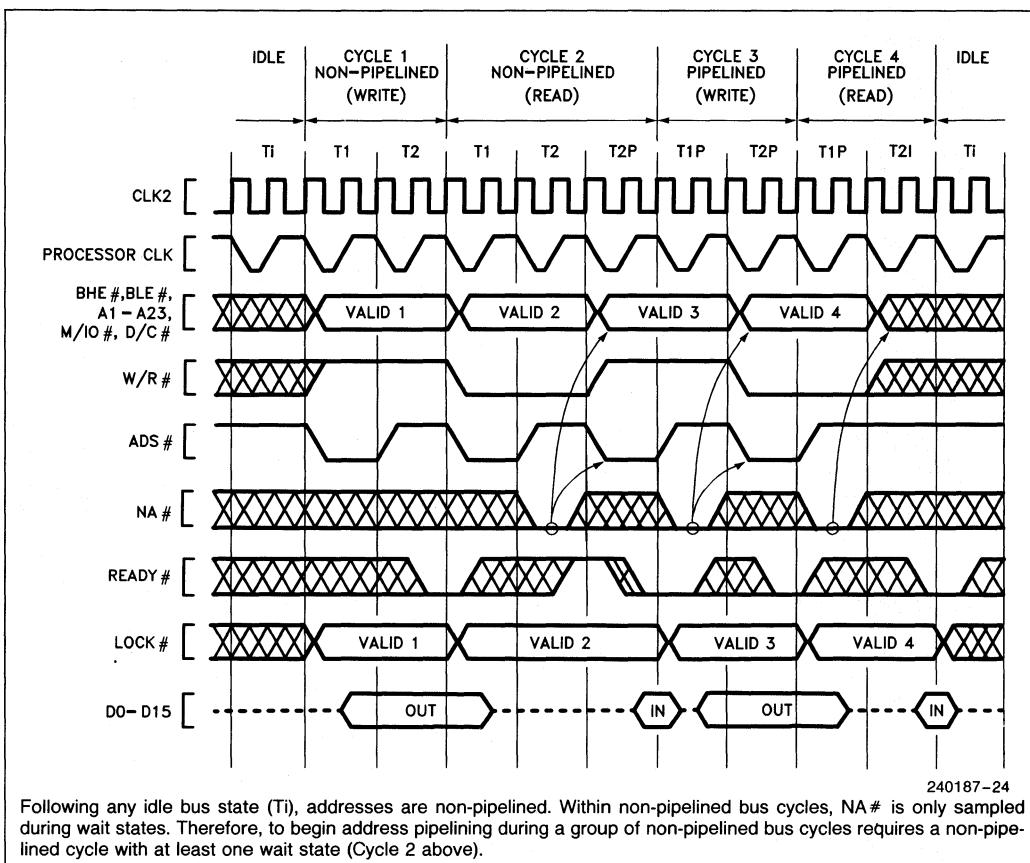
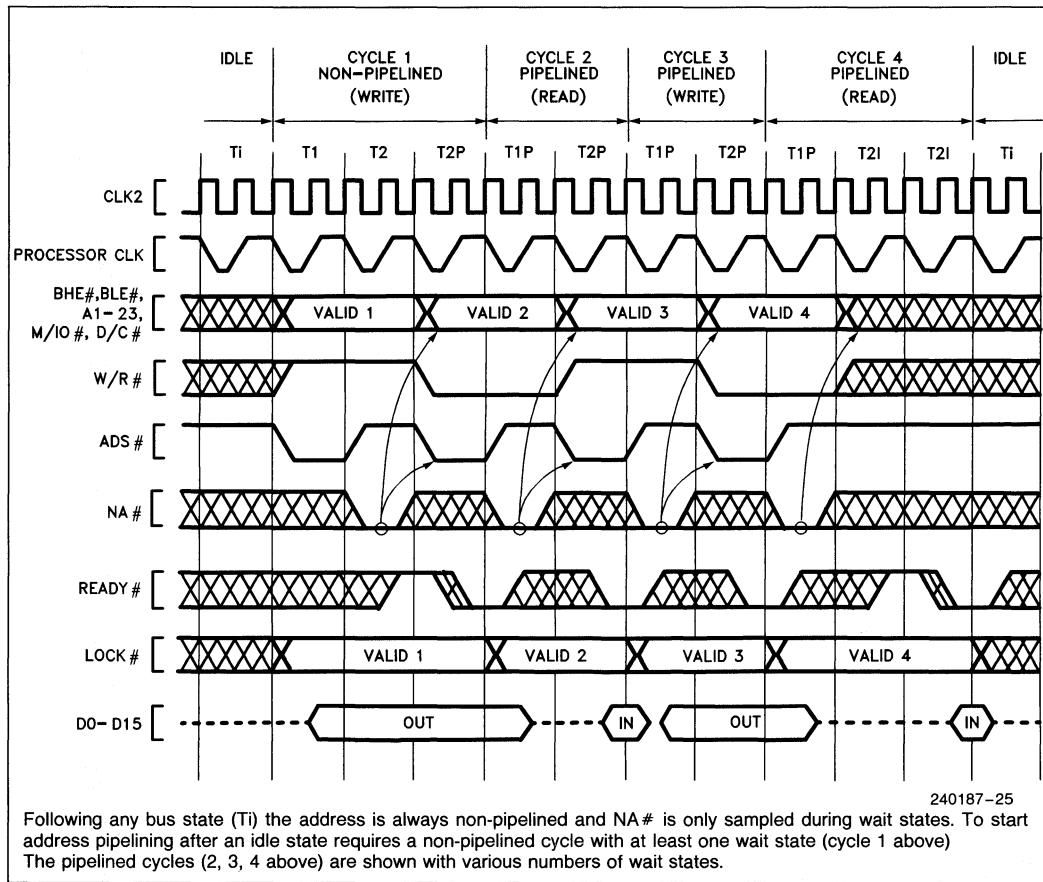

Figure 5.9. Transitioning to Pipelined Address During Burst of Bus Cycles
Figure 5.10. Fastest Transition to Pipelined Address Following Idle Bus State
Once a bus cycle is in progress and the current address has been valid for at least one entire bus state, the NA# input is sampled at the end of every phase one until the bus cycle is acknowledged. During non-pipelined bus cycles NA# is sampled at the end of phase one in every T2. An example is Cycle 2 in Figure 5.9, during which NA# is sampled at the end of phase one of every T2 (it was asserted once during the first T2 and has no further effect during that bus cycle).
1. The next address may appear as early as the bus state after NA# was sampled active (see Figures 5.9 or 5.10). In that case, state T2P is entered immediately. However, when there is not an internal bus request already pending, the next address will not be available immediately after NA# is asserted and T2I is entered instead of T2P (see Figure
2. Any address which is validated by a pulse on the 80386SX ADS# output will remain stable on the address pins for at least two processor clock periods. The 80386SX cannot produce a new address more frequently than every two processor clock periods (see Figures 5.9, 5.10, and 5.11).
The transition to pipelined address is shown functionally by Figure 5.10 Cycle 1. Note that Cycle 1 is used to transition into pipelined address timing for the subsequent Cycles 2, 3 and 4, which are pipelined. The $NA\#$ input is asserted at the appropriate time to select address pipelining for Cycles 2, 3 and 4.
Once a bus cycle is in progress and the current address has been valid for one entire bus state, the $NA\#$ input is sampled at the end of every phase one until the bus cycle is acknowledged. Sampling begins in $T2$ during Cycle 1 in Figure 5.10. Once $NA\#$ is sampled active during the current cycle, the 80386SX is free to drive a new address and bus cycle definition on the bus as early as the next bus state. In Figure 5.10 Cycle 1 for example, the next address is driven during state $T2P$. Thus Cycle 1 makes the transition to pipelined address timing, since it begins with $T1$ but ends with $T2P$. Because the address for Cycle 2 is available before Cycle 2 begins, Cycle 2 is called a pipelined bus cycle, and it
Examples of transition bus cycles are Figure 5.10 Cycle 1 and Figure 5.9 Cycle 2. Figure 5.10 shows transition during the very first cycle after an idle bus state, which is the fastest possible transition into address pipelining. Figure 5.9 Cycle 2 shows a transition cycle occurring during a burst of bus cycles. In any case, a transition cycle is the same whenever it occurs: it consists at least of $T1$, $T2$ ($NA\#$ is asserted at that time), and $T2P$ (provided the 80386SX has an internal bus request already pending, which it almost always has). $T2P$ states are repeated if wait states are added to the cycle.
Note that only three states ($T1$, $T2$ and $T2P$) are required in a bus cycle performing a **transition** from non-pipelined address into pipelined address timing, for example Figure 5.10 Cycle 1. Figure 5.10 Cycles 2, 3 and 4 show that address pipelining can be maintained with two-state bus cycles consisting only of $T1P$ and $T2P$.
Once a pipelined bus cycle is in progress, pipelined timing is maintained for the next cycle by asserting $NA\#$ and detecting that the 80386SX enters $T2P$ during the current bus cycle. The current bus cycle must end in state $T2P$ for pipelining to be maintained in the next cycle. $T2P$ is identified by the assertion of $ADS\#$. Figures 5.9 and 5.10 however, each show pipelining ending after Cycle 4 because Cycle 4 ends in $T2I$. This indicates the 80386SX didn't have an internal bus request prior to the acknowledgement of Cycle 4. If a cycle ends with a $T2$ or $T2I$, the next cycle will not be pipelined.